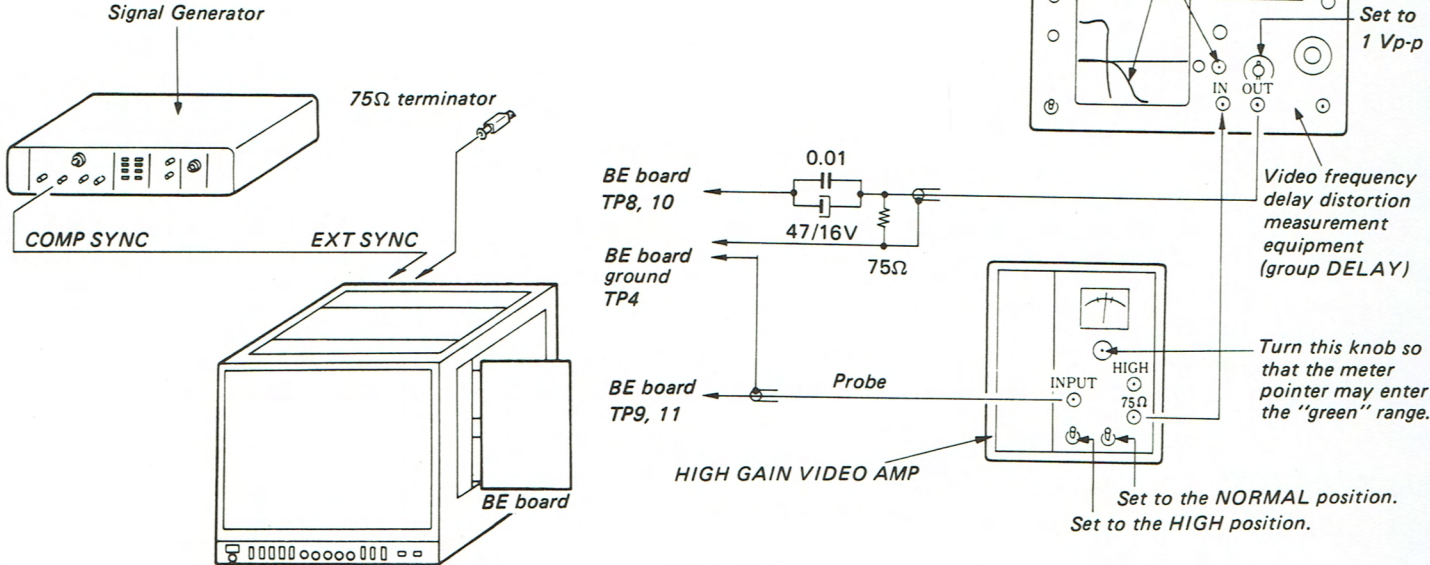

Fig. 18-1.
1. Complete the connections as shown in Fig. 18-1. Turn on the power of this monitor, and set the SYNC switch to the EXT position.